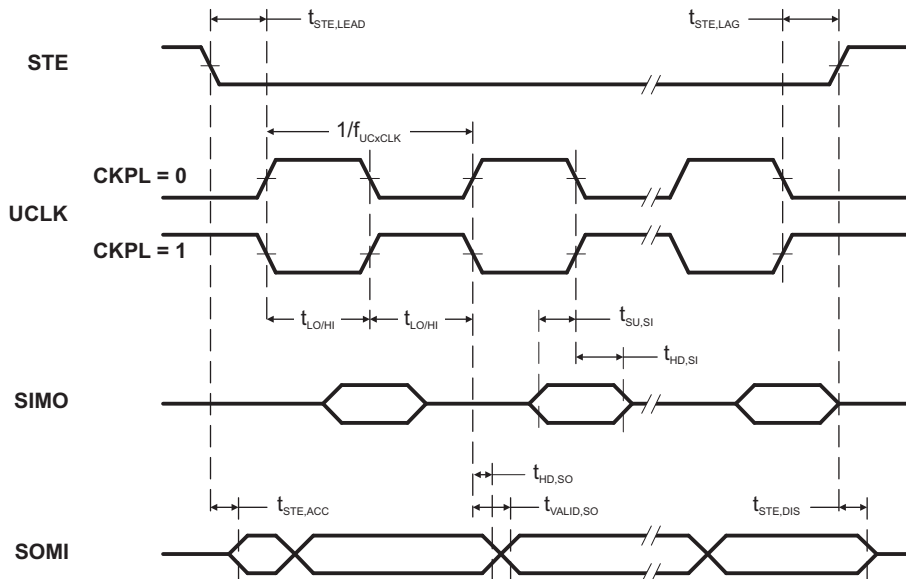
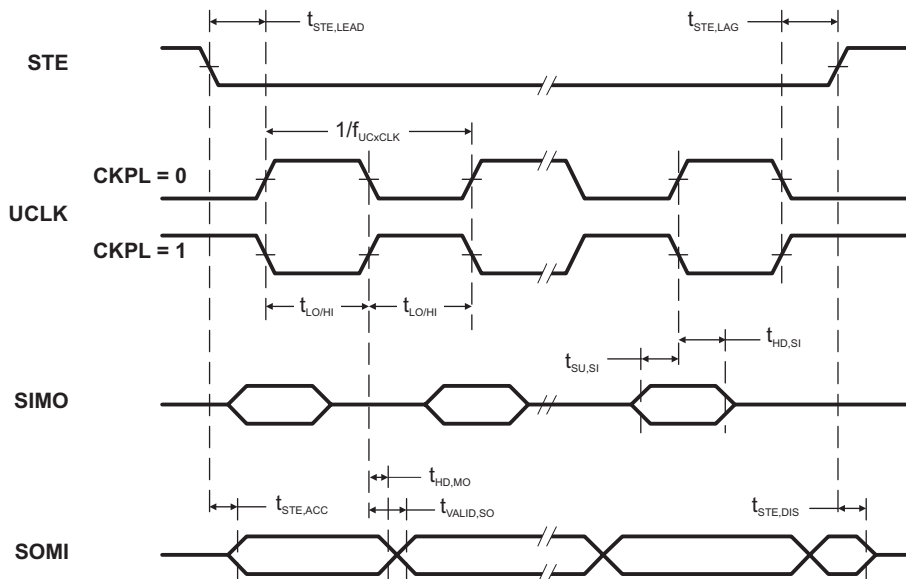

Figure 5. SPI Slave Mode, CKPH = 0
Figure 6. SPI Slave Mode, CKPH = 1
(see Note (1), Figure 5 and Figure 6)
- (2) Specifies the time to drive the next valid data to the SOMI output after the output changing UCLK clock edge. Refer to the timing diagrams in Figure 5 and Figure 6.
- (3) Specifies how long data on the SOMI output is valid after the output changing UCLK clock edge. Refer to the timing diagrams in Figure 5 and Figure 6.